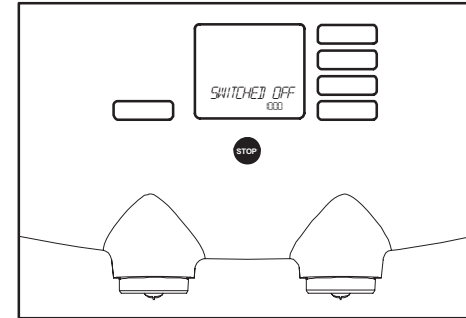

Fig. 6 Dispenser switched off
- The display shows the message: "SWITCHED OFF" (fig. 6).